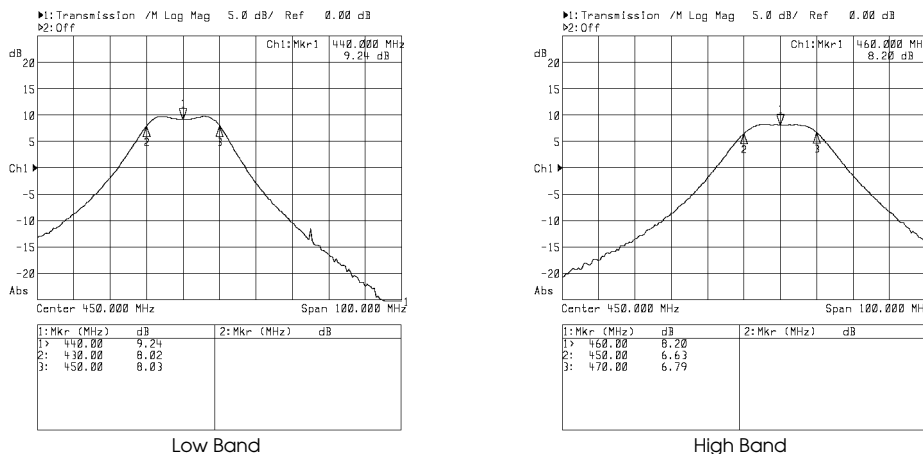

Figure 4. Helical filter’s diagrams for Low Band and High Band devices.
- Adjust the filter FL3 until you obtain a curve similar with one of those shown in Figure 4. (depending on the band); this is done by successively adjusting the two trimming screws located on the filter.